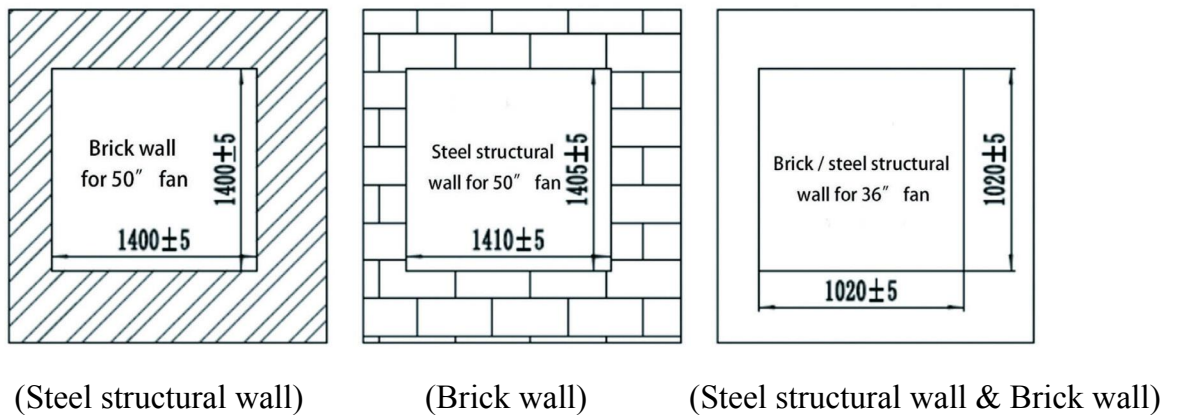

Figure 1
B. Ensure the reserved opening on the wall be square and flat. The specific dimensions of opening are shown as Figure 1.